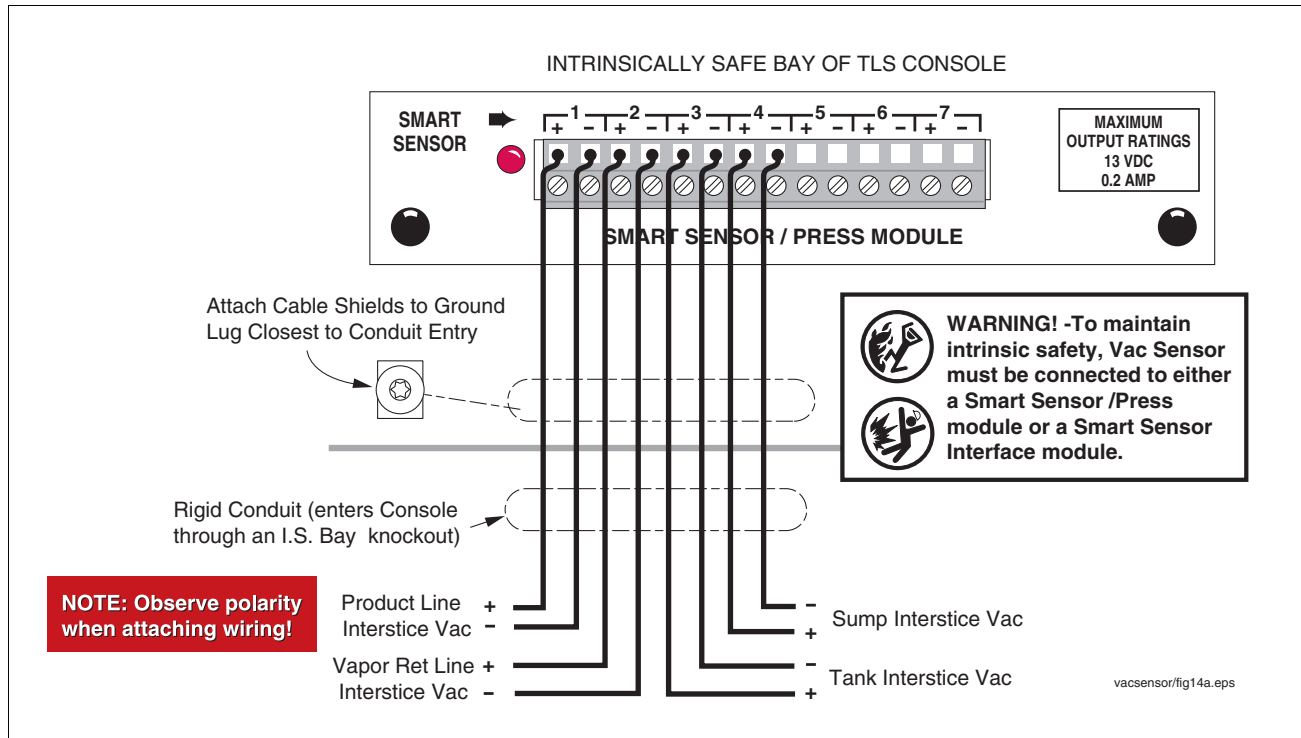

Figure 16. Attaching Vac Sensors to Smart Sensor with Pressure Sensor Module
1. Connect each Vac Sensor/Vac Float pair and the Vac Sensor/ Tank Interstitial Float pair cables to either a Smart Sensor with Pressure Sensor module or a Smart Sensor Interface module as shown in Figure 16. Note: at least one Smart Sensor with Pressure Sensor module must be installed in the console for proper Vac Sensor operation.